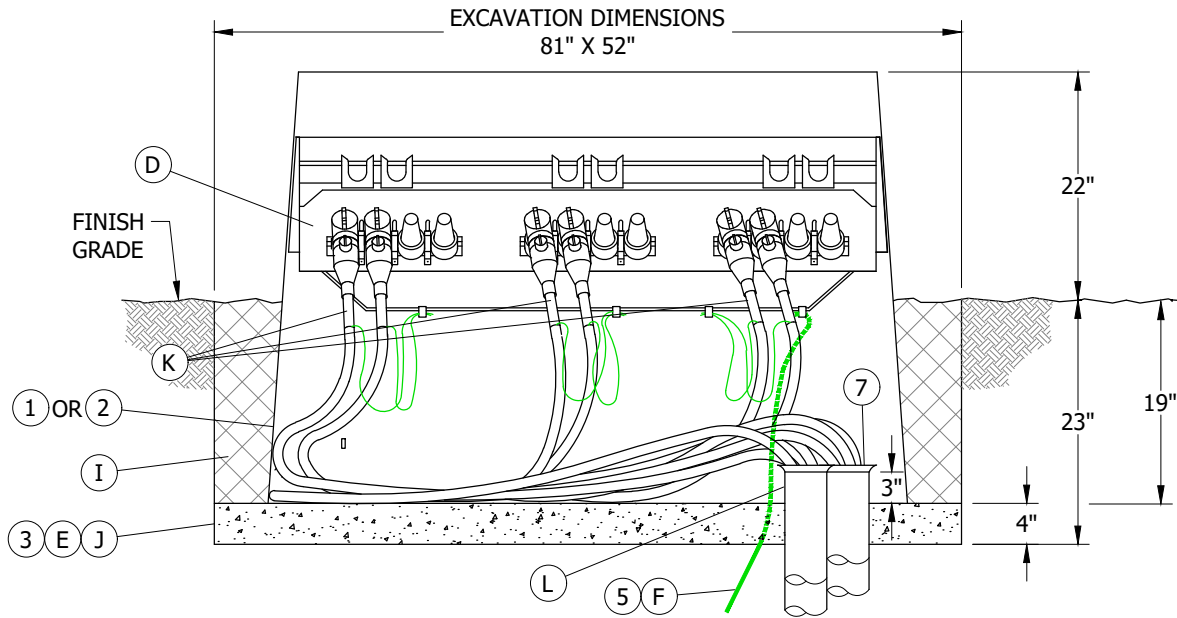

FIGURE 3
- C. PLACE PRIMARY CONDUITS WITH PEDESTAL SHOWN IN **FIGURE 3**. TERMINATE PRIMARY CONDUITS THREE INCHES ABOVE GRAVEL BASE. DO NOT CUT INTO THE CURVE PORTION OF ELBOWS.